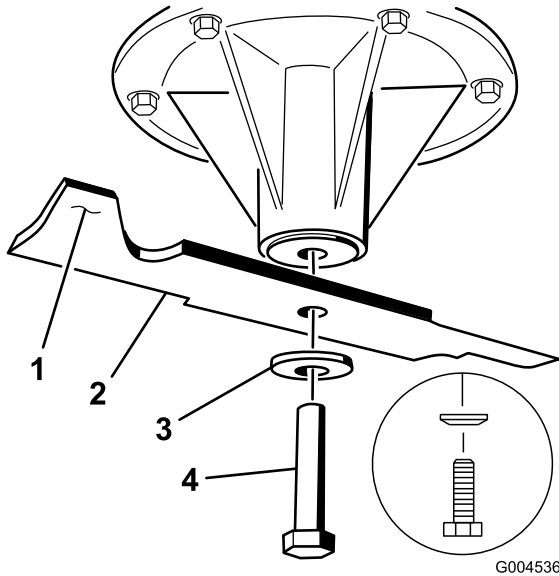

Figure 101
2. Remove the blade bolt, curved washer, and blade from the spindle shaft (Figure 101).